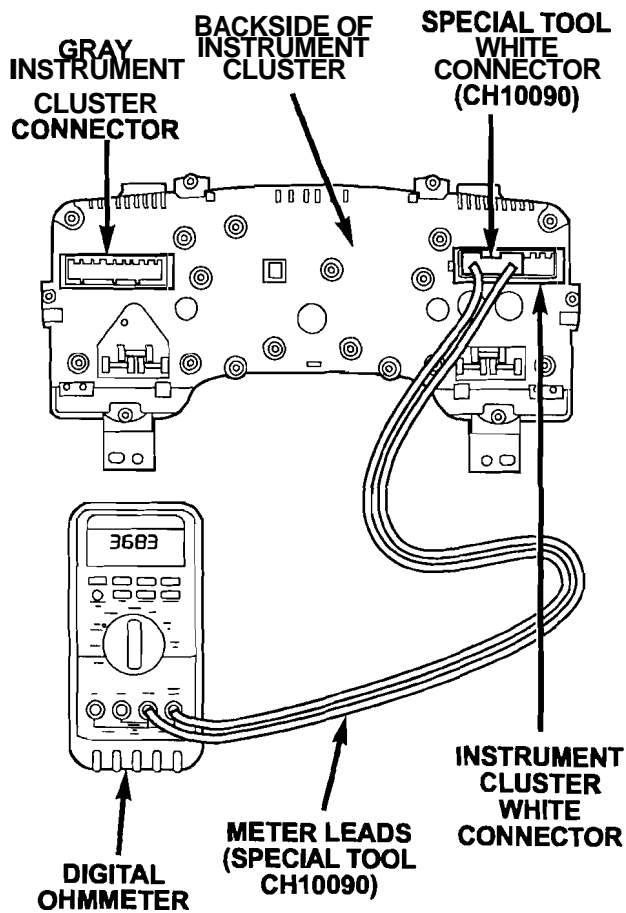

Figure 7
b. Connect the white connector of Special Tool CH10090 to the white instrument cluster connector (Figure 7).
c. Connect the wires of Special Tool CH10090 to the ohmmeter terminals (Figure 7).